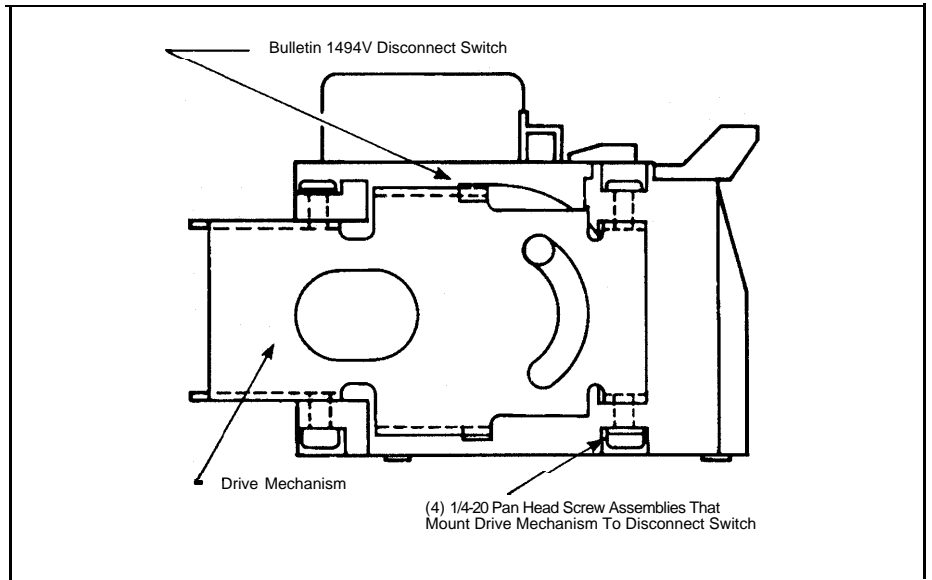

Figure 8
1. With the disconnect switch in the open position, loosen and remove the four screws and remove the drive mechanism from the right hand side of the disconnect switch. Save the four M-20 pan head screw assemblies shown in Figure 8.